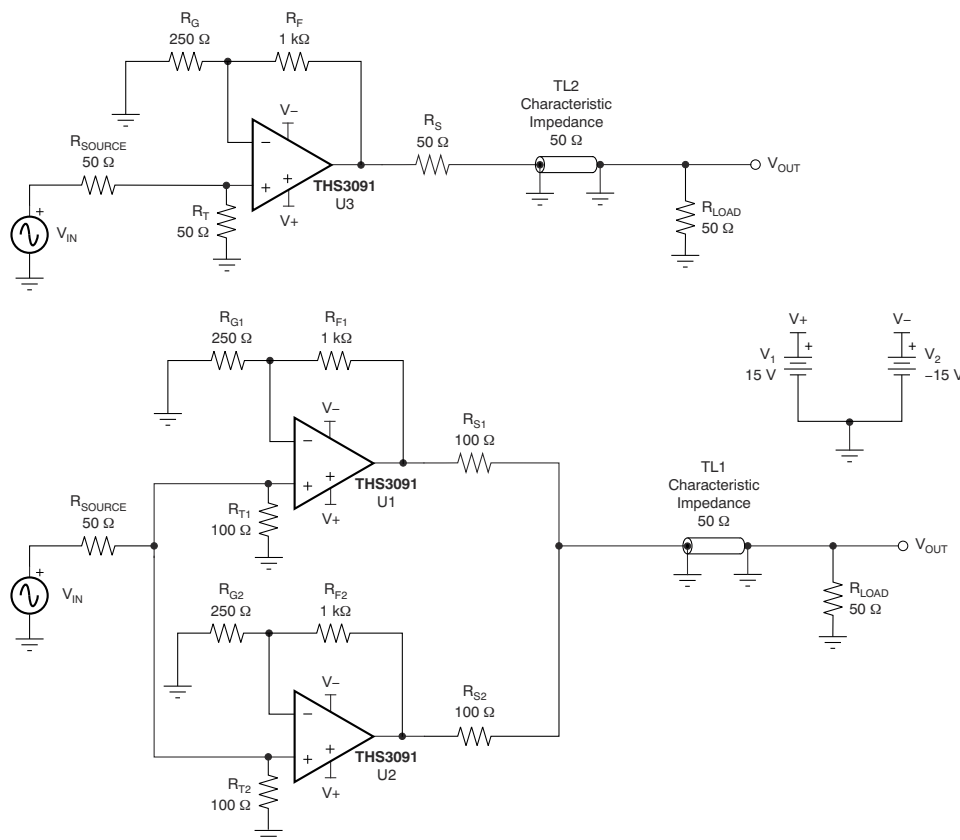
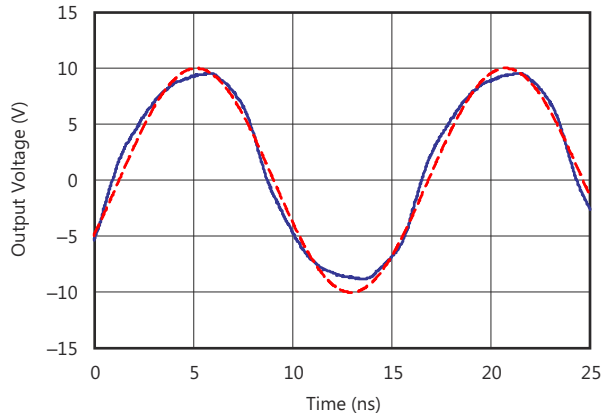
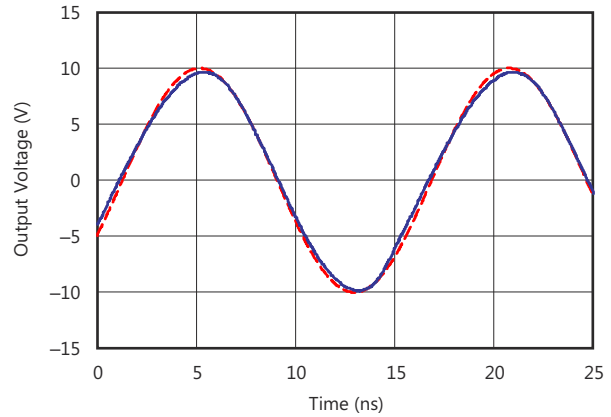

Figure 9-1. Reference THS3091 and THS3091 Load Sharing Test Configurations
Figure 9-4. 64-MHz Sine Wave Output (Gain = 5 V/V, Signal Amplitude Referred to Amplifier Output), Single THS3091 Circuit Configuration
Figure 9-5. 64-MHz Sine Wave Output (Gain = 5 V/V, Signal Amplitude Referred to Amplifier Output), Two THS3091 Amplifiers in Load Sharing Configuration
The fundamental concept of load sharing is to drive a load using two or more of the same operational amplifiers. Each amplifier is driven by the same source. Figure 9-1 illustrates the schematic for this design. This concept effectively reduces the current load of each amplifier by $1/N$, where N is the number of amplifiers. For further details on the design and performance of this circuit, see the Reference Design for Implementation of the Load Sharing Concept for Large-Signal Applications.
As shown in Figure 9-1 for example, in a two-amplifier load sharing configuration with matching resistance driving a resistive load (RL), each series resistance is 2×RL and each amplifier drives 2×RL. A convenient indicator of whether an op amp will function well in a load sharing configuration is the characteristic performance graph of harmonic distortion versus load resistance. Figure 7-9 and Figure 7-10 show more information. Such graphs can be found in most of TI's high-speed amplifier data sheets. These graphs can be used to obtain a general sense of whether or not an amplifier will show improved distortion performance in load sharing configurations.
Figure 9-1 shows two test circuits: one for a single THS3091 amplifier driving a double-terminated (50-Ω cable), and one with two THS3091 amplifiers in a load sharing configuration. In the load sharing configuration, the two 100-Ω series output resistors act in parallel to provide 50-Ω back-matching to the 50-Ω cable.
Figure 9-4 and Figure 9-5 show the 64-MHz sine wave outputs of the two configurations from Figure 9-1. While the single THS3091 output is clearly distorted in Figure 9-4, the output of the load sharing configuration in Figure 9-5 shows only minor deviations from the ideal sine wave.